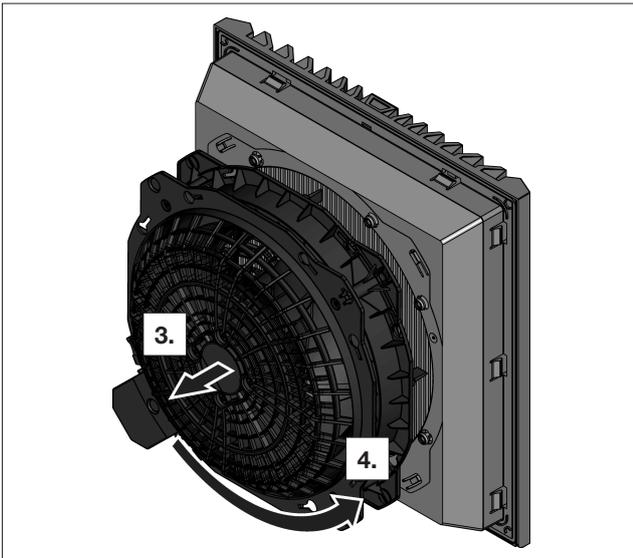

Fig. 16: Turning the fan housing
- Then turn the fan housing by 90°, 180° or 270° so that the electrical connection is in the desired position (see fig. 16).